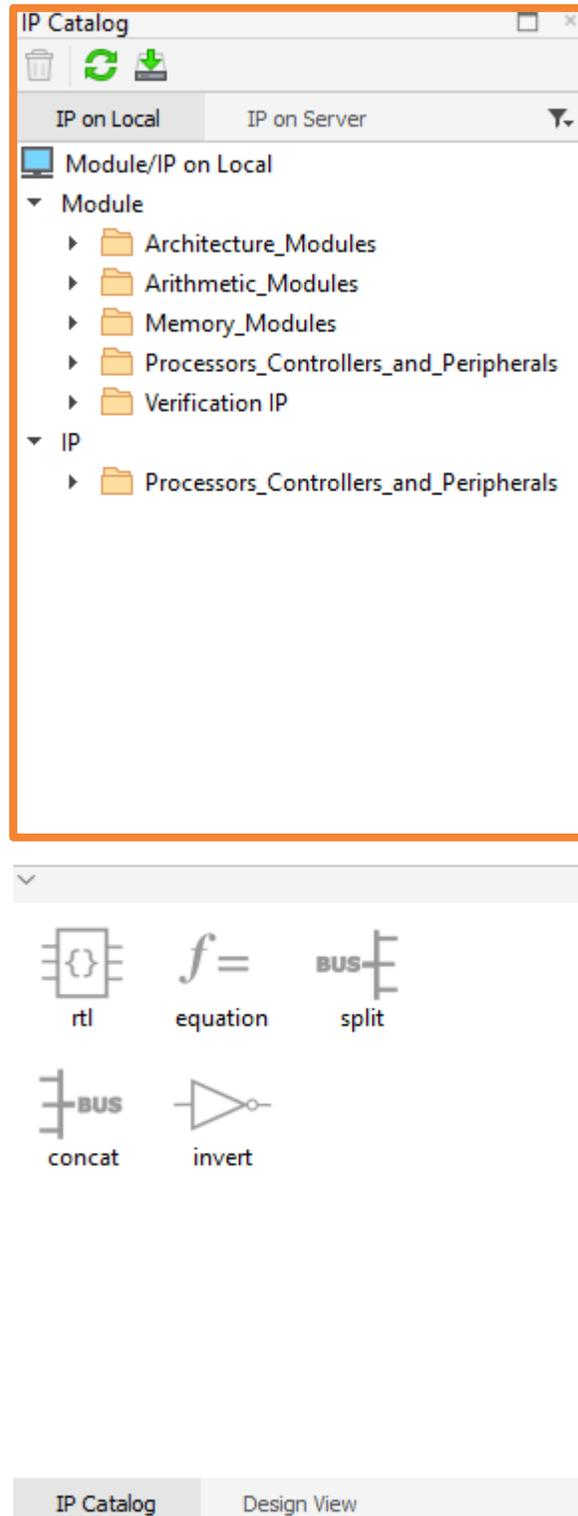

Figure 2.14. IP Catalog
After starting a Propel Builder project, you can add modules by dragging them from the IP Catalog view to the Schematic view. The IP Catalog view comes with a large variety of modules for common use and some glue logic modules as well, which can be found from the **IP on Local** tab (Figure 2.14). Click the **IP on Server** tab to find and download more modules for specialized use.
- (Optional) From the Propel Builder GUI **IP Catalog** area (Figure 2.14), choose the **IP on Server** tab. Select a desired IP. Click the  **Install** button. After the IP is installed successfully, the new IP can be shown in the **IP on Local** tab.